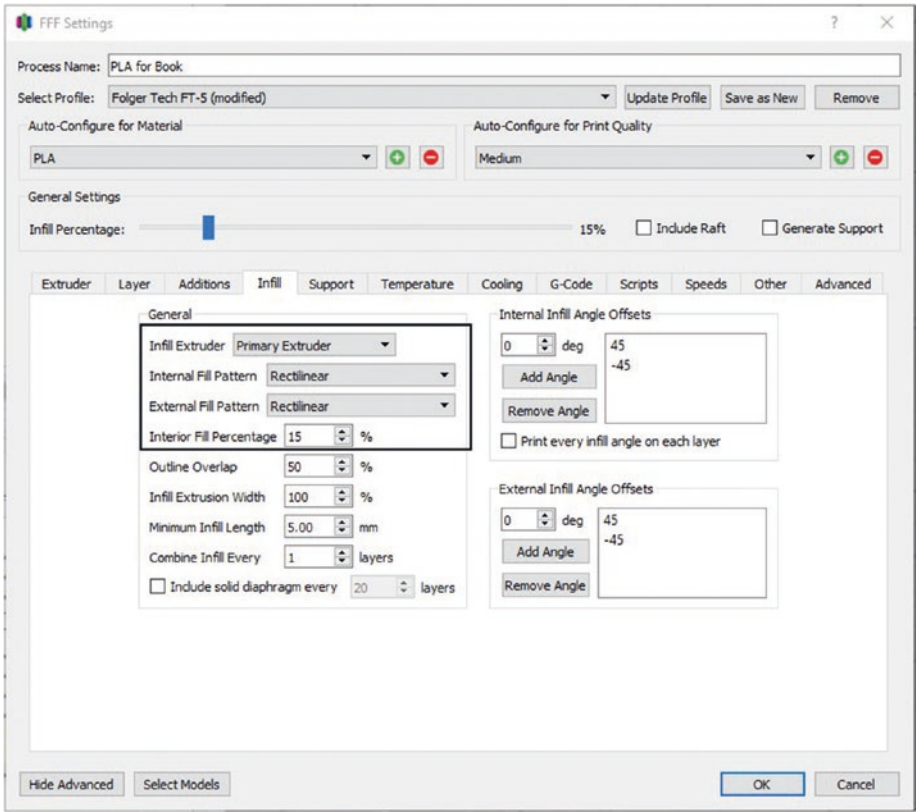

Figure 4-22. *Infill tab*
4. Tab 4: Infill (see Figure 4-22)